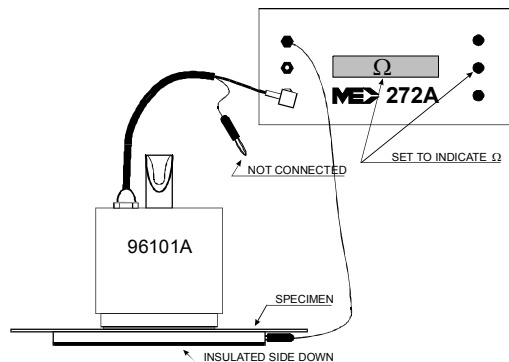

Figure 5
Most materials commonly being tested in today's world of ESD awareness are intended not to be electrically insulative. For specimens that have negligible surface leakage, an unguarded measurement based on the actual area of the (1.2" dia.) center electrode greatly simplifies the calculations. For material samples less than 0.060" thick, the errors introduced into an unguarded measurement are usually small enough to be negligible. The connections for unguarded measurements are given in Figure 5. Factors for converting meter readings (in Ω) directly to volume resistivity (unit $\Omega \cdot \text{cm}$) are presented in Table 1.
- 1) Arrange test setup as in Figure 5.